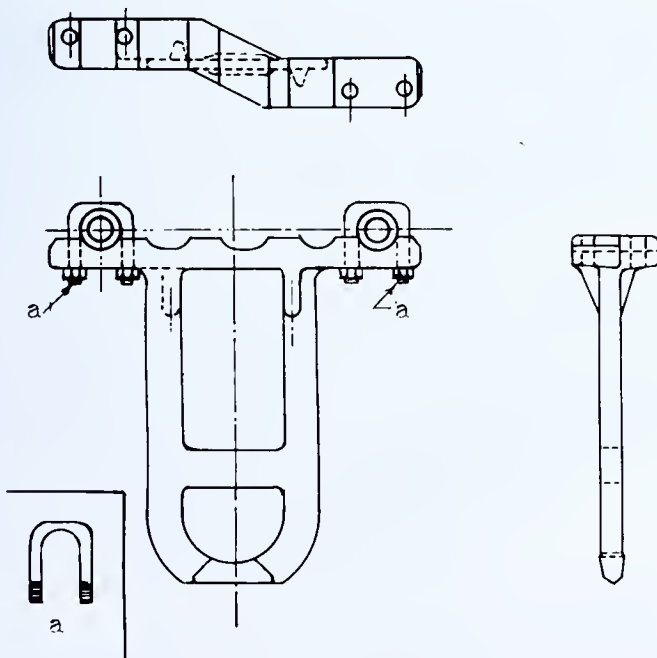

FIG. 502 — Soot Blower Bearing
1. Install soot blower bearings, Fig. 502, for element S1 shown in Fig. 500. Make certain that nuts are tight on U-bolts, Fig. 502 at *a*.
4. Install soot blower bearings, Fig. 502, for element S2 shown in Fig. 500. Make certain that nuts are tight in U-bolts.